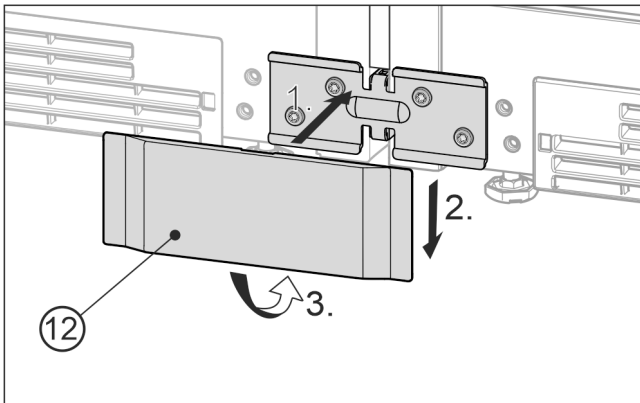

Fig. 24 Example illustration
- ▶ Place the bottom cover Fig. 24 (12) onto the bracket from the front Fig. 24 (1), slide it down Fig. 24 (2) and snap it in at the bottom Fig. 24 (3).